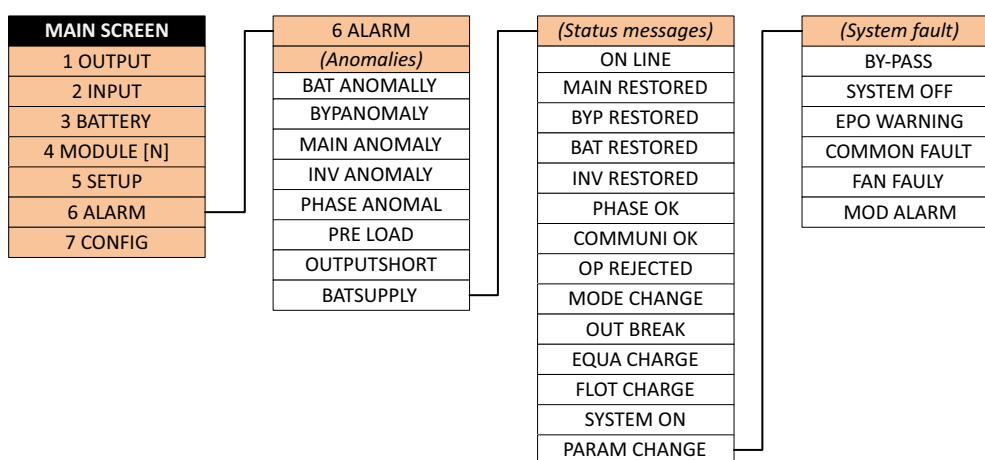

Figure 6.1 LCD Alarm indications
You can interrogate the active alarm(s) and machine status by navigating to the [6 ALARM] sub-menu from the LCD MAIN SCREEN, as shown in Figure 6.1 (see the full menu map in Figure 2.11 for details of the navigation process).
The alarm indications are functionally arranged in three groups – i.e. *Anomalies*, *Status messages*, and *System faults* – and as you scroll through the [6 ALARM] sub-menu the indications are presented in the sequence shown in Figure 6.1.
3. Scroll through the ALARMS sub-menu shown in Figure 6.1 and record the presented alarm and status data.